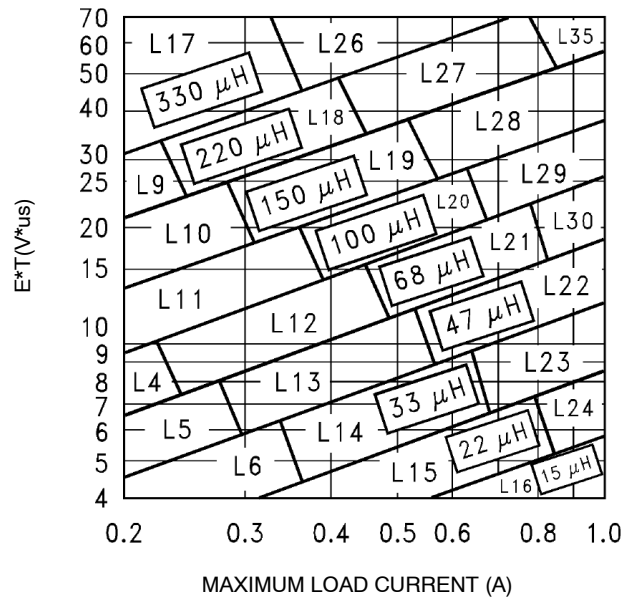

Figure 19. Inductor Value Selection Guides (For Continuous Mode Operation)
4. Inductor Selection (L1) A. Use the following formula to calculate the inductor Volt x microsecond [V x μs] constant: $E \times T = (V_{IN} - V_{OUT} - V_{SAT}) \times \frac{V_{OUT} + V_D}{V_{IN} - V_{SAT} + V_D} \times \frac{1000}{150 \text{ kHz}} (V \times \mu s)$ B. Match the calculated E x T value with the corresponding number on the vertical axis of the Inductor Value Selection Guide shown in Figure 19. This E x T constant is a measure of the energy handling capability of an inductor and is dependent upon the type of core, the core area, the number of turns, and the duty cycle. C. Next step is to identify the inductance region intersected by the E x T value and the maximum load current value on the horizontal axis shown in Figure 19. D. Select an appropriate inductor from Table 3. The inductor chosen must be rated for a switching frequency of 150 kHz and for a current rating of $1.15 \times I_{Load}$. The inductor current rating can also be determined by calculating the inductor peak current: $I_{p(max)} = I_{Load(max)} + \frac{(V_{in} - V_{out}) t_{on}}{2L}$ where t_{on} is the "on" time of the power switch and $t_{on} = \frac{V_{out}}{V_{in}} \times \frac{1.0}{f_{osc}}$	4. Inductor Selection (L1) A. Calculate E x T [V x μs] constant: $E \times T = (12 - 5 - 1.0) \times \frac{5 + 0.5}{12 - 1 + 0.5} \times \frac{1000}{150 \text{ kHz}} (V \times \mu s)$ $E \times T = (6) \times \frac{5.5}{11.5} \times 6.7 (V \times \mu s)$ B. E x T = 19.2 [V x μs] C. $I_{Load(max)} = 1.0 \text{ A}$ Inductance Region = L30 D. Proper inductor value = 68 μH Choose the inductor from Table 3.
To simplify the inductor selection process, an inductor selection guide for the LM2595 regulator was added to this data sheet (Figure 19). This guide assumes that the regulator is operating in the continuous mode, and selects an inductor that will allow a peak-to-peak inductor ripple current to be a certain percentage of the maximum design load current. This percentage is allowed to change as different design load currents are selected. For light loads (less than approximately 300 mA) it may be desirable to operate the regulator in the discontinuous mode, because the inductor value and size can be kept relatively low. Consequently, the percentage of inductor peak-to-peak current increases. This discontinuous mode of operation is perfectly acceptable for this type of switching converter. Any buck regulator will be forced to enter discontinuous mode if the load current is light enough.